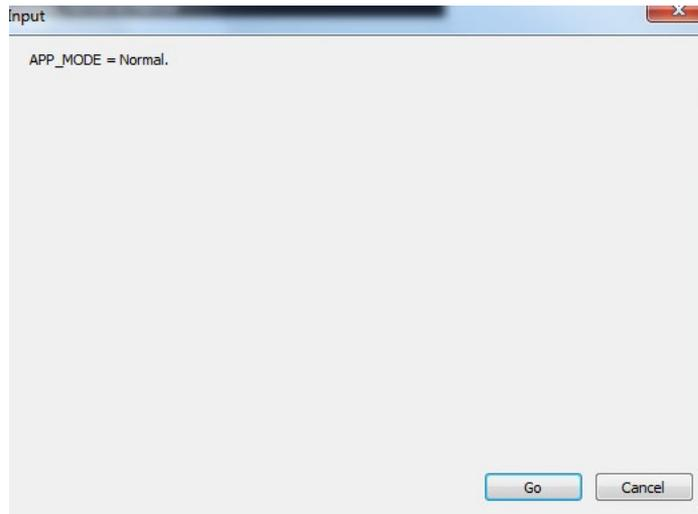

Figure 107 - Mode Changed
3. Select **Normal** in the pulldown, click **GO** and Figure 107 appears.